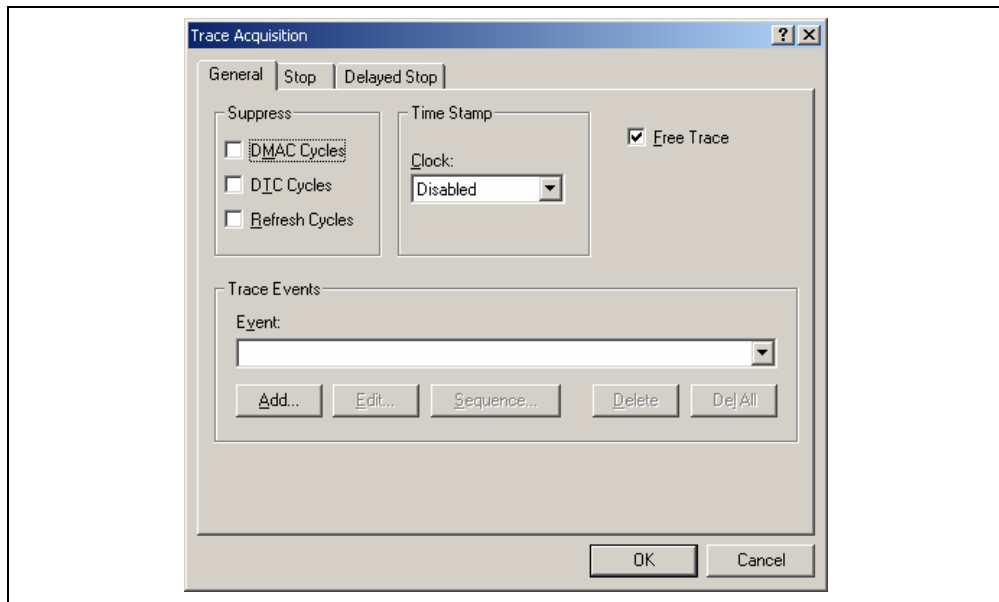

Figure 6.41 [Trace Acquisition] Dialog Box
- (1) Clicking the right-hand mouse button on the [Trace] window displays a popup menu. Select [Acquisition...] from this menu to display the [Trace Acquisition] dialog box (see figure 6.41, [Trace Acquisition] dialog box).